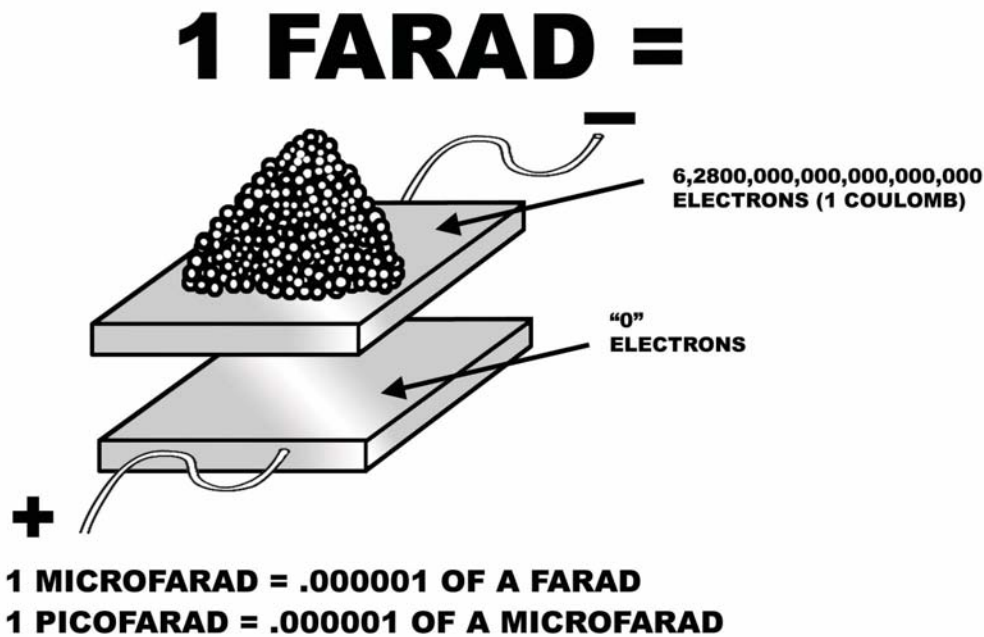

Figure 11-53
The maximum charge of a capacitor is its capacitance. Capacitance is specified in **FARADS**, **MICROFARADS** or **PICOFARADS**. The name **FARAD** comes from the last name of its discoverer, **MICHAEL FARADAY**. A one Farad capacitor connected to a one volt source will store **6,280,000,000,000,000,000 ELECTRONS** or 6.28×10 to the 18th power. One Micro-farad (1 μF) equals 0.000001 Farad (F) or one millionth of a Farad. One Picofarad (1 pF) equals 0.000000000001F or 10 to the minus 12 power. Refer to Figure 11-53.